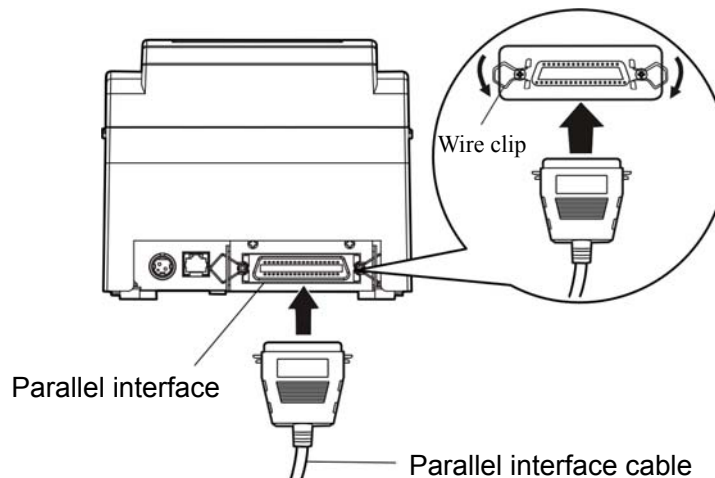

Figure 2-3 Connecting the parallel interface cable
1. Make sure that the host computer and the printer are both turned off, connect the parallel interface cable to the connector of the printer, and tighten the screws as shown in Figure 2-3.